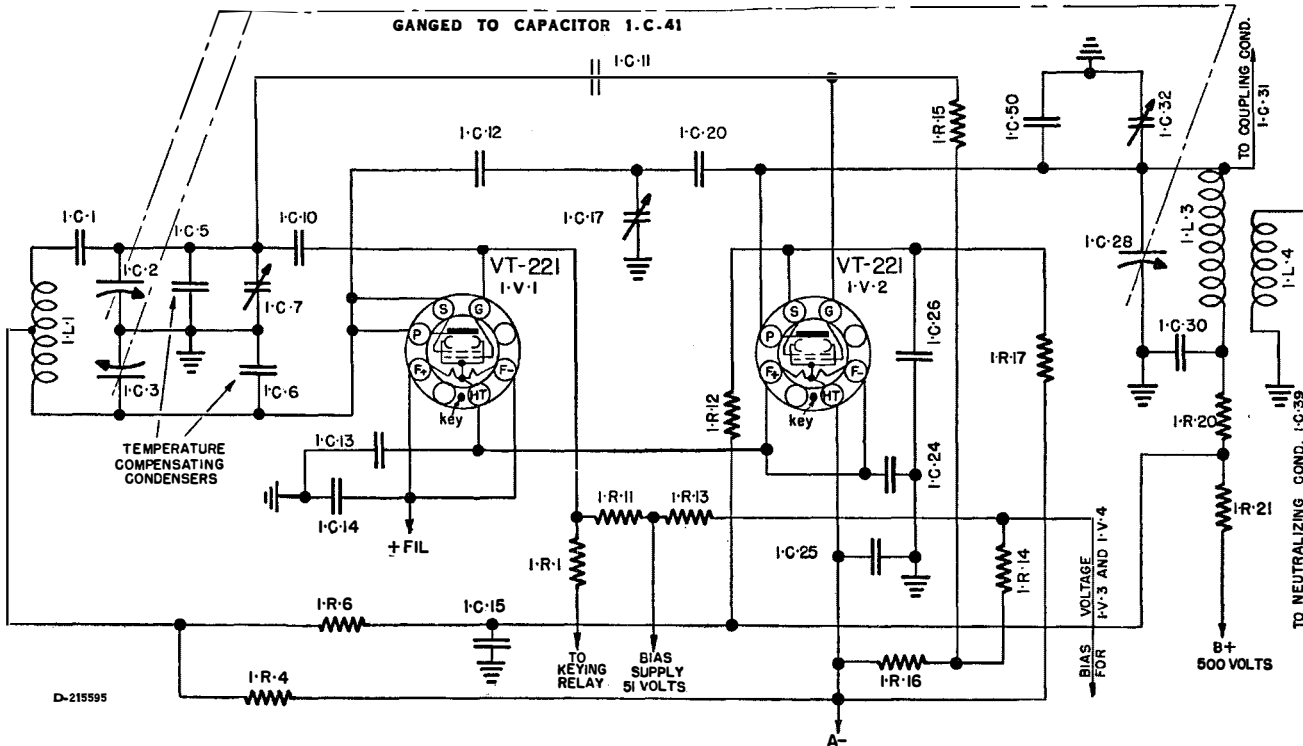

FIG. 18. MASTER OSCILLATOR - INTERMEDIATE POWER AMPLIFIER CIRCUIT
d. Master Oscillator-Intermediate Power Amplifier Circuit: (FIG. 18)
- (1) The master oscillator uses the Colpitts circuit. Oscillator Tube VT-221 (1-V-1), is connected as a triode, with the screen and plate joined. The tuning is accomplished in the oscillator circuit by capacitors (1-C-2 and 1-C-3), connected in series forming a split or balanced circuit to ground. Capacitors (1-C-5 and 1-C-6) are of the negative co-efficient type, to prevent drifting with temperature in the oscillator circuit. Capacitor (1-C-1) is used to permit tracking of the oscillator to other stages of the transmitter. The mid-tap of coil (1-L-1) is connected to the positive plate supply.
- (2) For calibration of the master oscillator, trimmer capacitor (1-C-7) is used. The tube filament is by-passed by capacitors (1-C-13 and 1-C-14).
- (3) The neutralizing network is comprised of capacitors (1-C-12, 1-C-20 and 1-C-17). Neutralizing is accomplished by supplying a voltage from Coil (1-L-1) to the plate circuit of tube 1-V-2, which is opposite the phase to the voltage driving the grid of tube 1-V-2. The magnitude of this neutralizing voltage is controlled by capacitor (1-C-17).